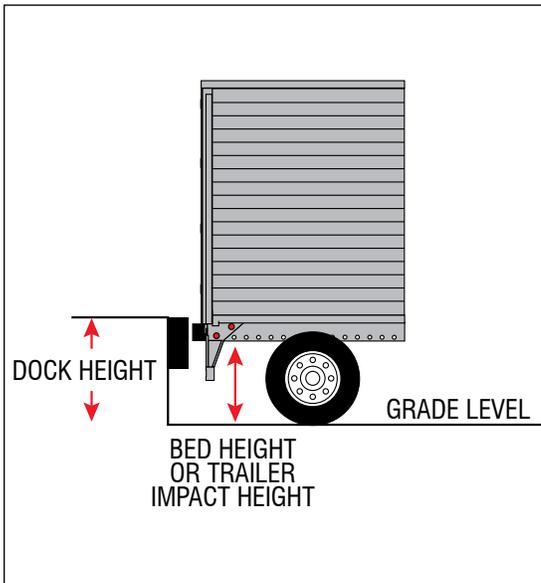

Figure 1
STEP 1: Choose the desired RISE (A) based on the coverage needed. See Figure 1.